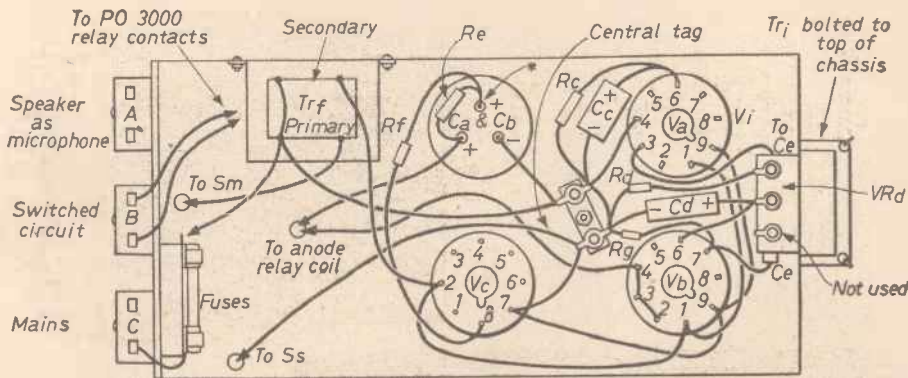

Fig. 9.—Chassis from underneath, showing larger components and some wiring.
2. Refer to Figs. 9 and 12 and wire red mains lead terminal to Fuse "A." Take other side of fuse to switch S_m on the front panel, make a small hole in the tin to pass the wire through. (In future this method will be assumed.)
4. Join C_e to pin 3 also, having sufficient sleeved wire to allow the condenser to lie underneath VR_d in Fig. 9.
4. Join the side tag (shown in Fig. 9) of VR_d to control tag (Fig. 4) via R_a. Leave the other tag of VR_d unused as shown.